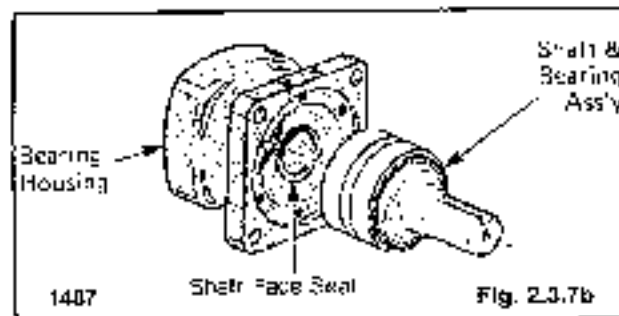

Fig. 2.3.7b
2. Install the shaft and bearing assembly in the housing (fig. 2.3.7b). A press may be required to install the shaft and bearing assembly.